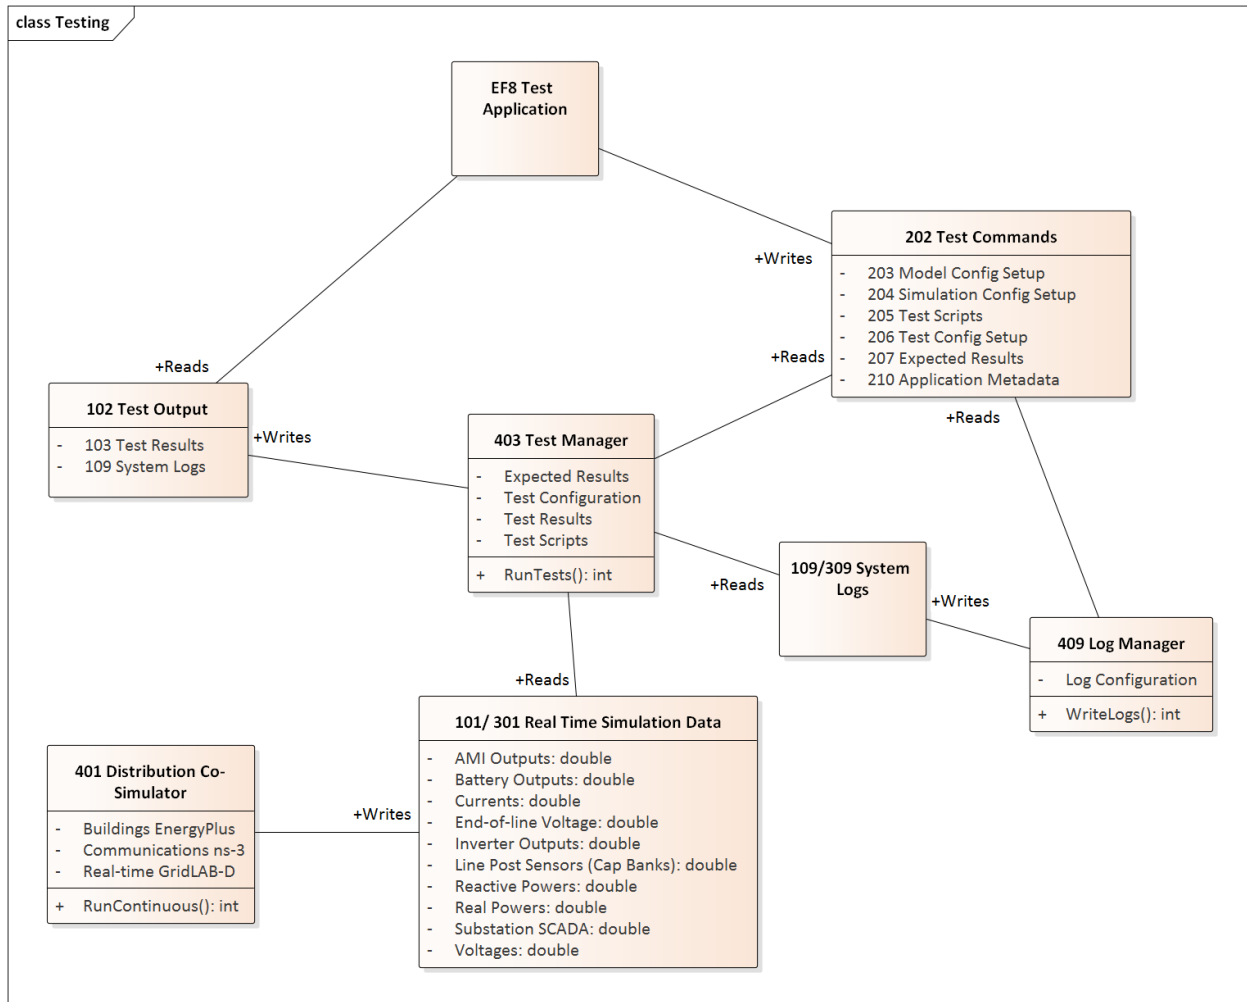

Figure 4: Testing an application or the platform
9. Clarify side1 and side2 for switch phase modeling (Figure 4)
Figure 4 shows the internal Platform Manager flow when running application tests. Compared to the case of normal